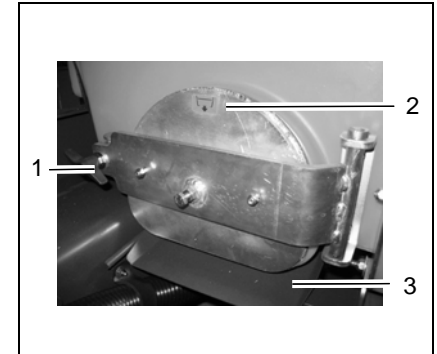
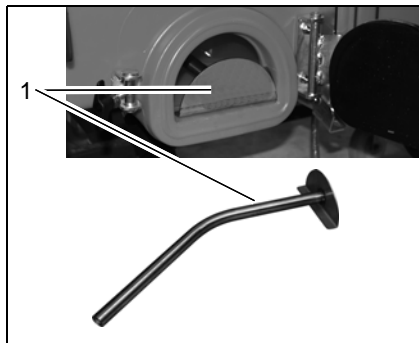

Fig. 29
Fig. 30
3. Pull out the run-off plate (Fig. 29/3).
4. Release the flap lock: turn the wing nuts (Fig. 29/1) counterclockwise.
5. Open the cleaning flap (Fig. 29/2). In the recovery tank a tube (Fig. 30/1) is located. This tube serves to support the membrane wall.